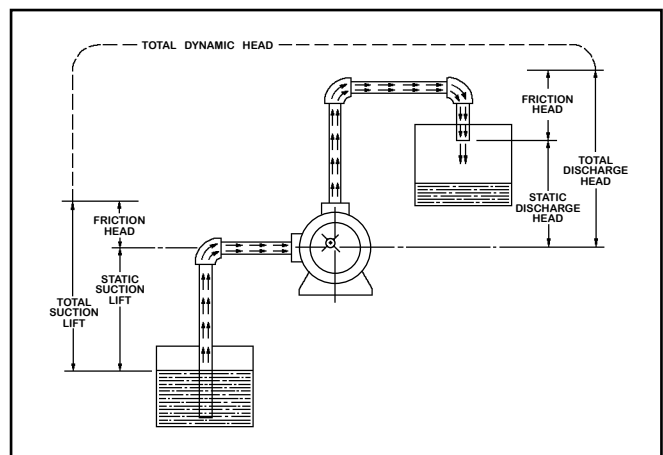

FIG. 3 - Typical Installation Showing Total Dynamic Head
- See Figure 3.
Total Discharge Head — is the sum of the frictional head in the discharge line (discharge frictional head) and the static discharge head. See Figure 3.
Total Dynamic Head — is the sum of the total discharge head and total suction lift or the difference between the total discharge head and total suction head. See Figure 3.